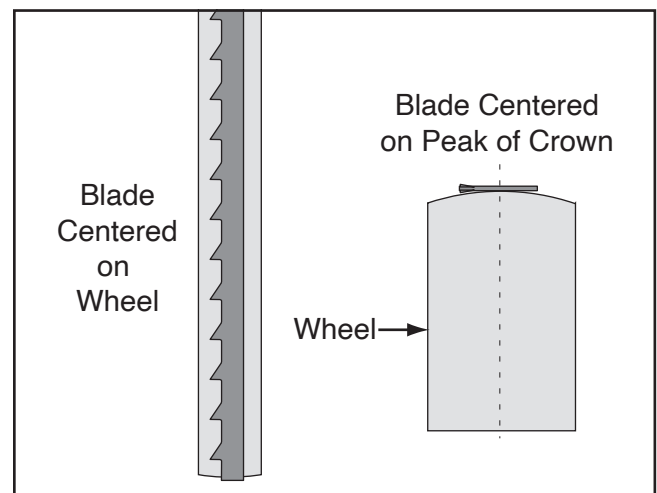

Figure 31. Profiles of blade properly center tracking.
4. Open the upper wheel cover, then spin the upper wheel by hand at least three times and watch how the blade rides on the crown of the wheel. Refer to **Figure 31** for an illustration of this concept.